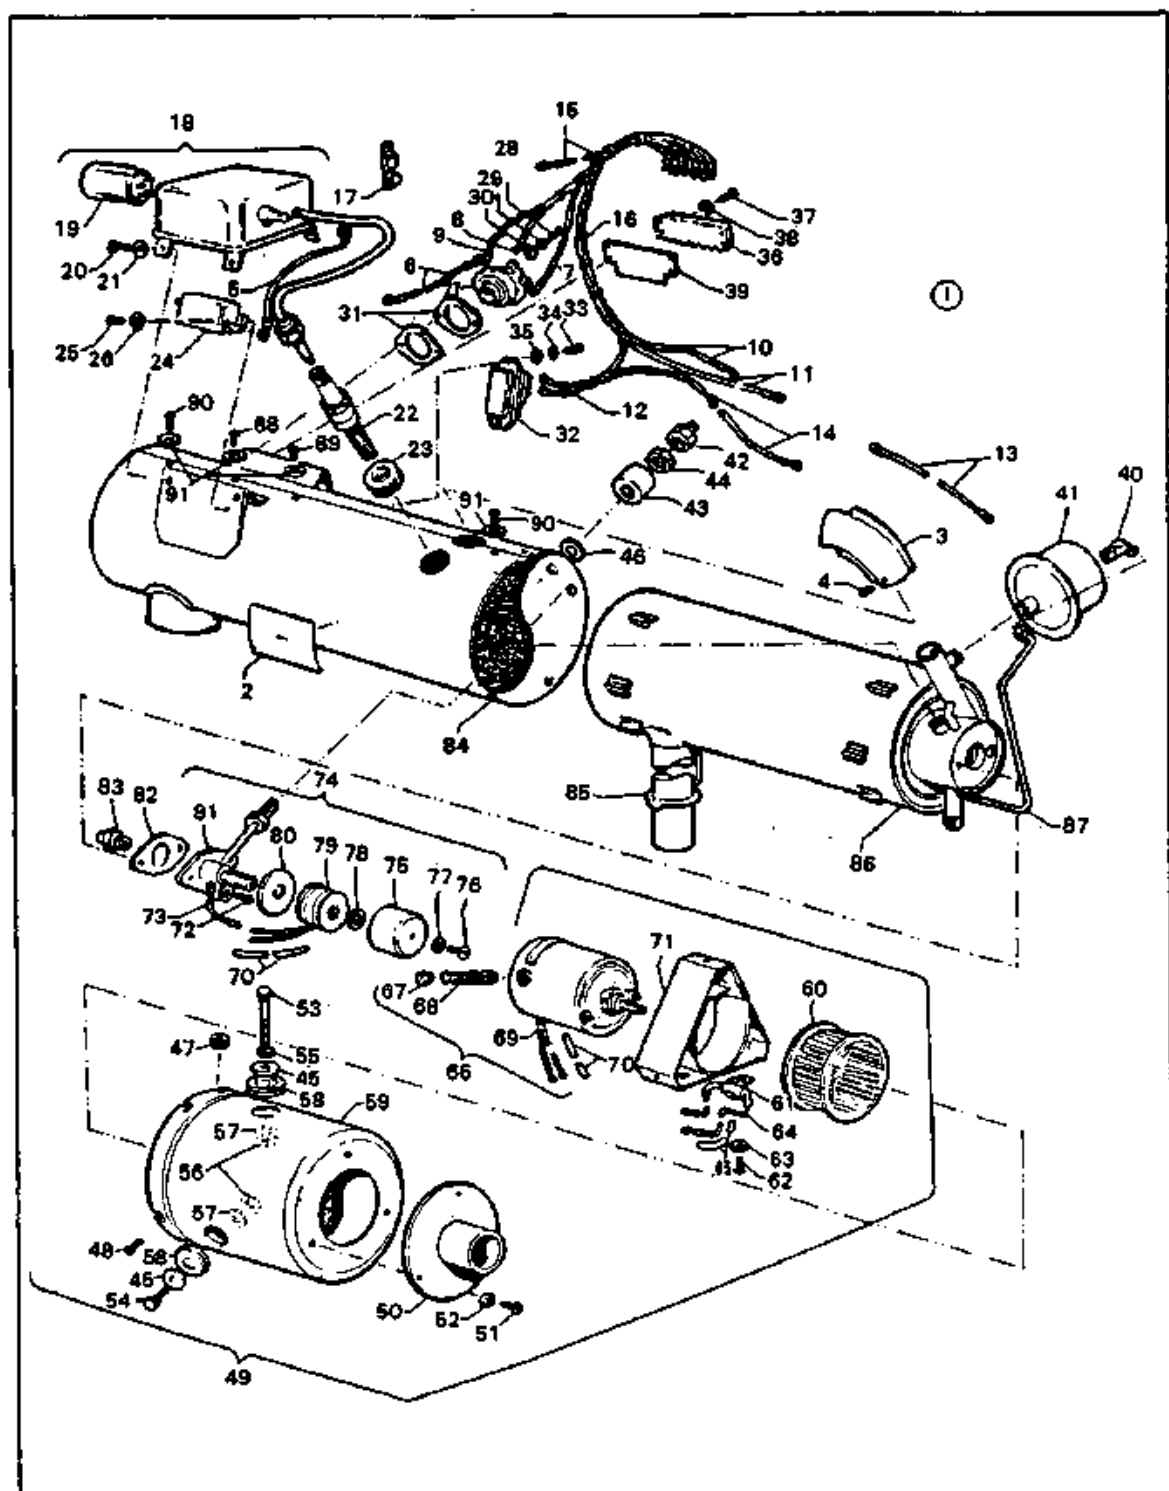

Figure 13-25. Exploded View of Heater Assembly No. 751 959
13-110. CLEANING. (Refer to Figure 13-25.)
13-111. CLEANING AND INSPECTING THE COMBUSTION TUBE ASSEMBLY. (Refer to Figure 13-25.)
13-112. INSPECTION OF REMAINING COMPONENTS. (Refer to Figure 13-25.)
f. Inspect the ignition assembly (18, Figure 13-25) for dented case, loose or damaged primary terminal insulator and broken or obviously damaged high-voltage lead. Give particular attention to the condition of the spring connector at the end of the lead. If the spring is burned off, visibly eroded, or carbon tracked, the ignition assembly should be replaced.
- e. Spray test the nozzle (see (83), Figure 13-25) as follows:
13-115. REASSEMBLY. (Refer to Figure 13-25.)
Legend for Figure 13-25.